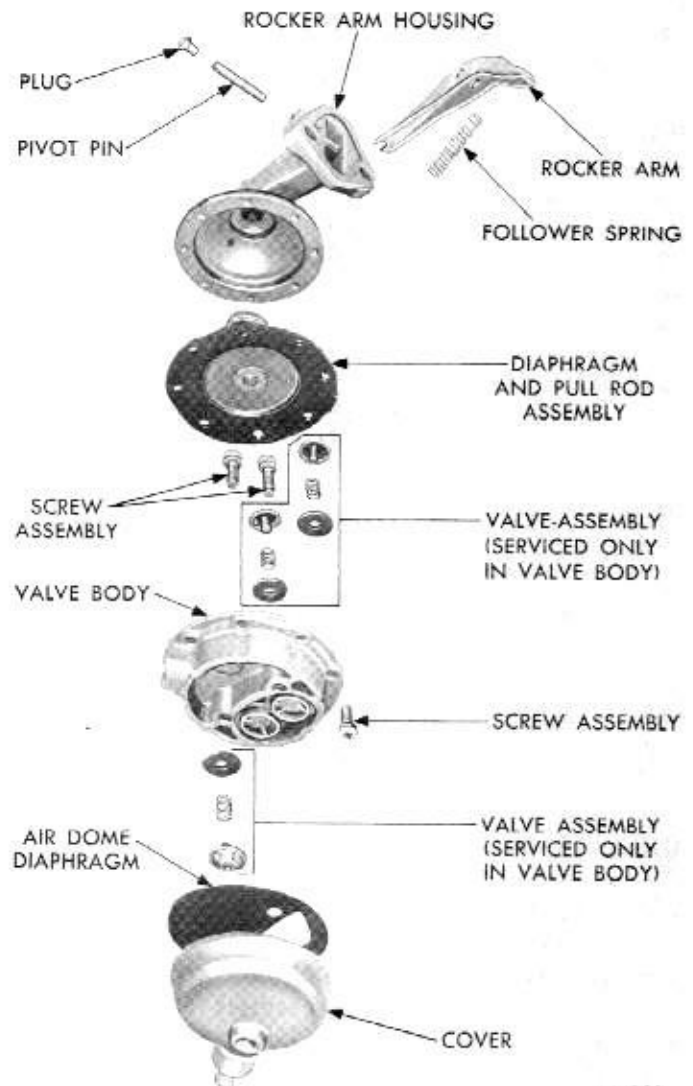

Fig. 5—Fuel Pump (Exploded View)
Model MS-4589SA (Fig. 3) and Model RD-267A, (Fig. 6) (optional) is used on the 383 and 440 cubic inch engine. Model MS-4024S is used on the 426 cu. in. engine (Fig. 5). Model MS-4845S is used on the 440 cu. in. H.P. engine (Fig. 3).
- (1) Remove the pivot pin plug, using Tool T109-43 (Fig. 5).
- (2) Disengage the rocker arm follower spring from the rocker arm and rocker arm housing.
- (3) Turn the pump on its side (pivot pin hole down) and rap gently to remove the pivot pin.
- (4) Disengage the rocker arm from the diaphragm pull rod, by sliding rocker arm out of housing.
- (5) Remove the screws that attach the valve body to the rocker arm housing. Separate the valve body and rocker arm housings, and lift out the diaphragm and pull rod assembly.
- (6) Remove the screws that attach the valve body to the valve housing cover. Separate cover and valve body and remove the outlet air dome diaphragm.
ASSEMBLING FUEL PUMP (Fig. 5)